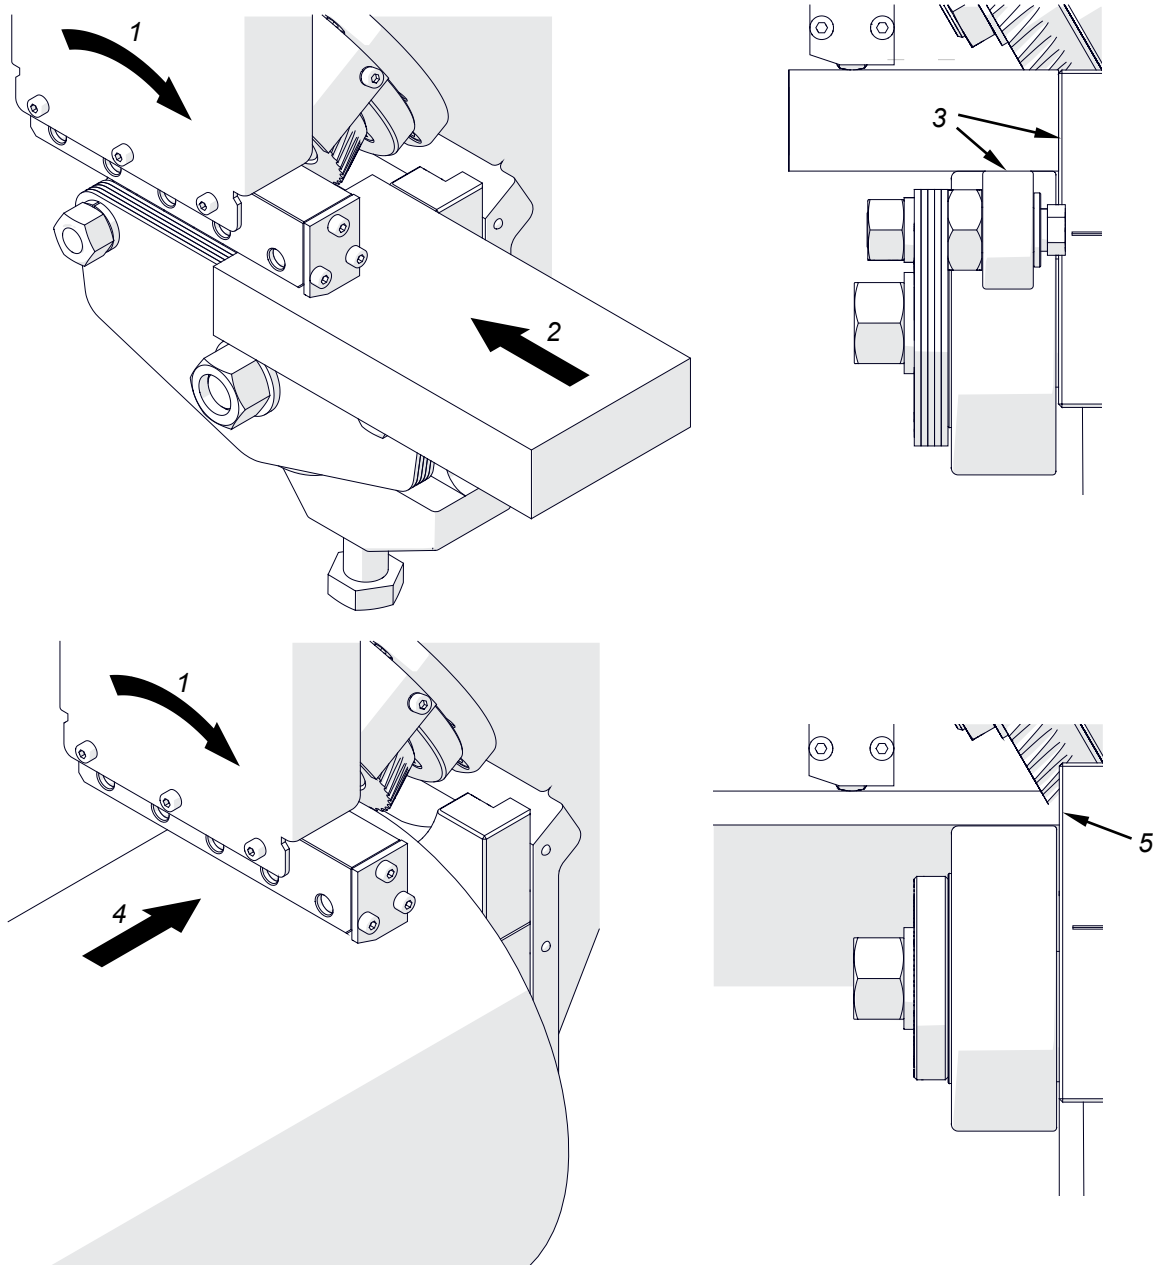

Fig. 4. Beveling plates or pipes
Connect the machine to the power source and use the power switch to turn on the power. Set the rotation direction switch to "1" and make sure that the cutter rotates in direction 1 (Fig. 4). If it rotates in the opposite direction, set the switch to "2." Next, insert the plate (2) so that it rests on the slide and support rollers (3). To bevel a pipe, place it on the guide roller, move it to the slide (4, 5), and keep the pipe in this position.
After the milling is started, the workpiece moves automatically. To bevel the plate from the bottom, place the machine upside down and insert the plate from the direction opposite to 2 (Fig. 4).